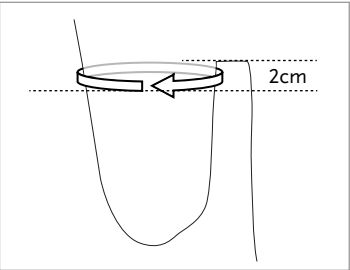

Fig. 1
1. Measure the circumference 1-2 cm below the level of the perineum (see fig. 1).